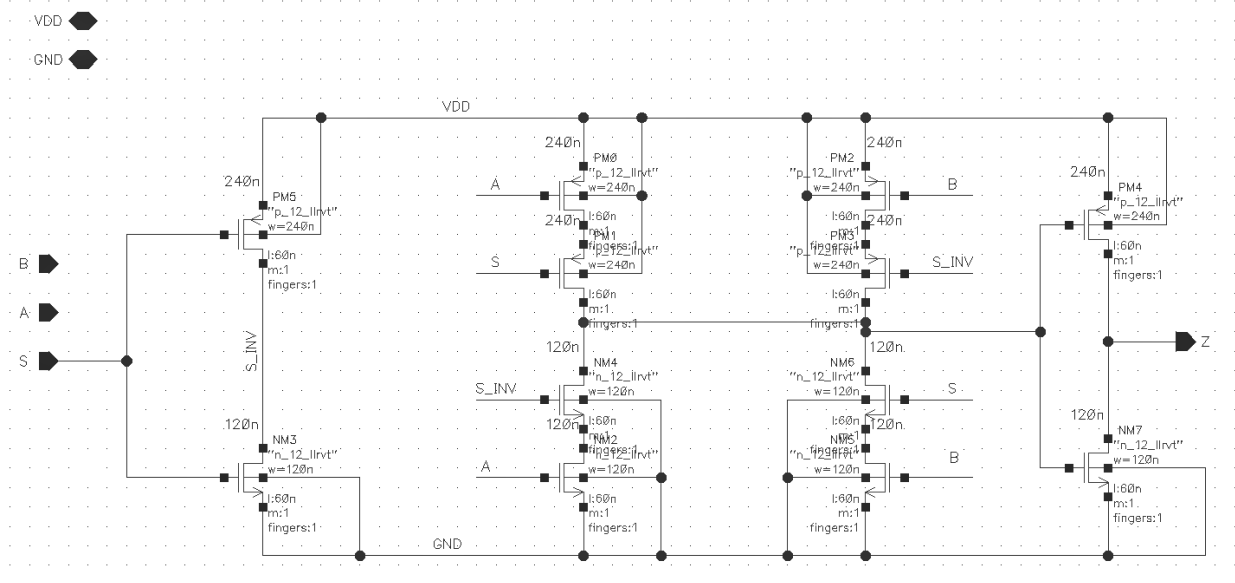

Figure 5 - The Final MUX 2-to-1 Schematic ($S=1 \Rightarrow Z=B$; $S=0 \Rightarrow Z=A$)
- ✓ Return to the schematic editor window **without closing the option form** and place 6 NMOS transistors in your schematic as in the Figure 4 or Figure 5. To turn them sideways, you can use **Sideways** button on the **Add Instance** window (see the figure - right). When you are done, either press **Escape** or click **Cancel** on the option form to stop placing transistors.
- ✓ Choose **Create→Wire (narrow)** from the menu (*bindkey: w*), and add wires to your schematic to connect the different elements as shown on the Figure 5 (next page).
- ❶ Use the **Zoom (View→Zoom In... or I)** and **Fit (Window→Zoom to Fit... or f)** commands to adjust the zoom. (Please note that zoom in and zoom out can also be done by turning the wheel of the mouse.) You can even use these commands while in the middle of creating a wire without interrupting.
- ✓ Choose **Create→Wire Name** from then menu (*bindkey: l*). In the option form, type **A**, **B**, **S** and **S_INV**, and name the corresponding wires as shown in the Figure 4 (before) or in Figure 5 (next page). Finally, check if your schematic corresponds completely to the Figure 5 (be careful - check the transistor bulk connections).
- ❶ **Important!** Try to add wire names (use labels) for all the important wires (nets) in your design. After simulation, automatic names can be hard to distinguish and trace, especially in large schematics.
QUESTION : Look at the two inverters in the figure 5 schematic. Based on your knowledge of the sizing guidelines, assuming these inverters are balanced, what can you tell about the carrier mobility ?